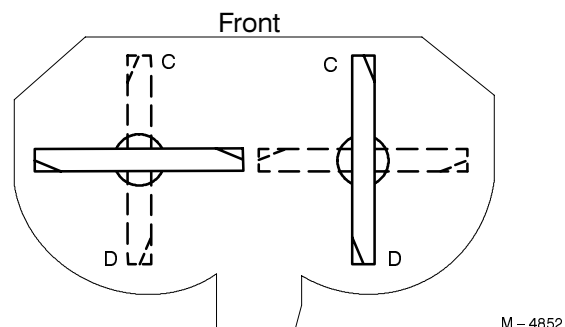
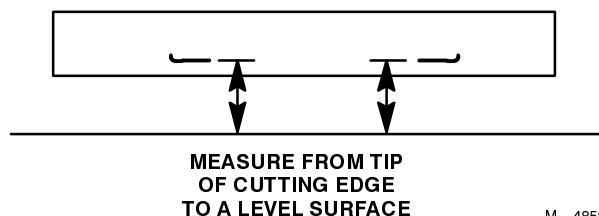

Figure 51
Figure 52
2. Position one blade front-to-rear (Fig. 51). Measure at "C" and "D" locations (Fig. 51) from a level surface to the cutting edge of the blade tips (Fig. 52).